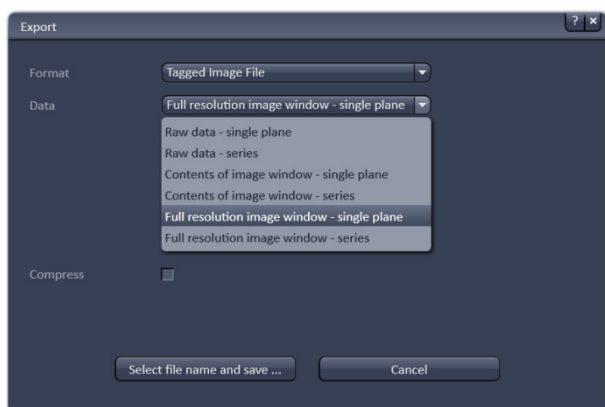

Fig. 772 Data type selection
- Select the data type which the image is to be exported under **Data** (Fig. 772).